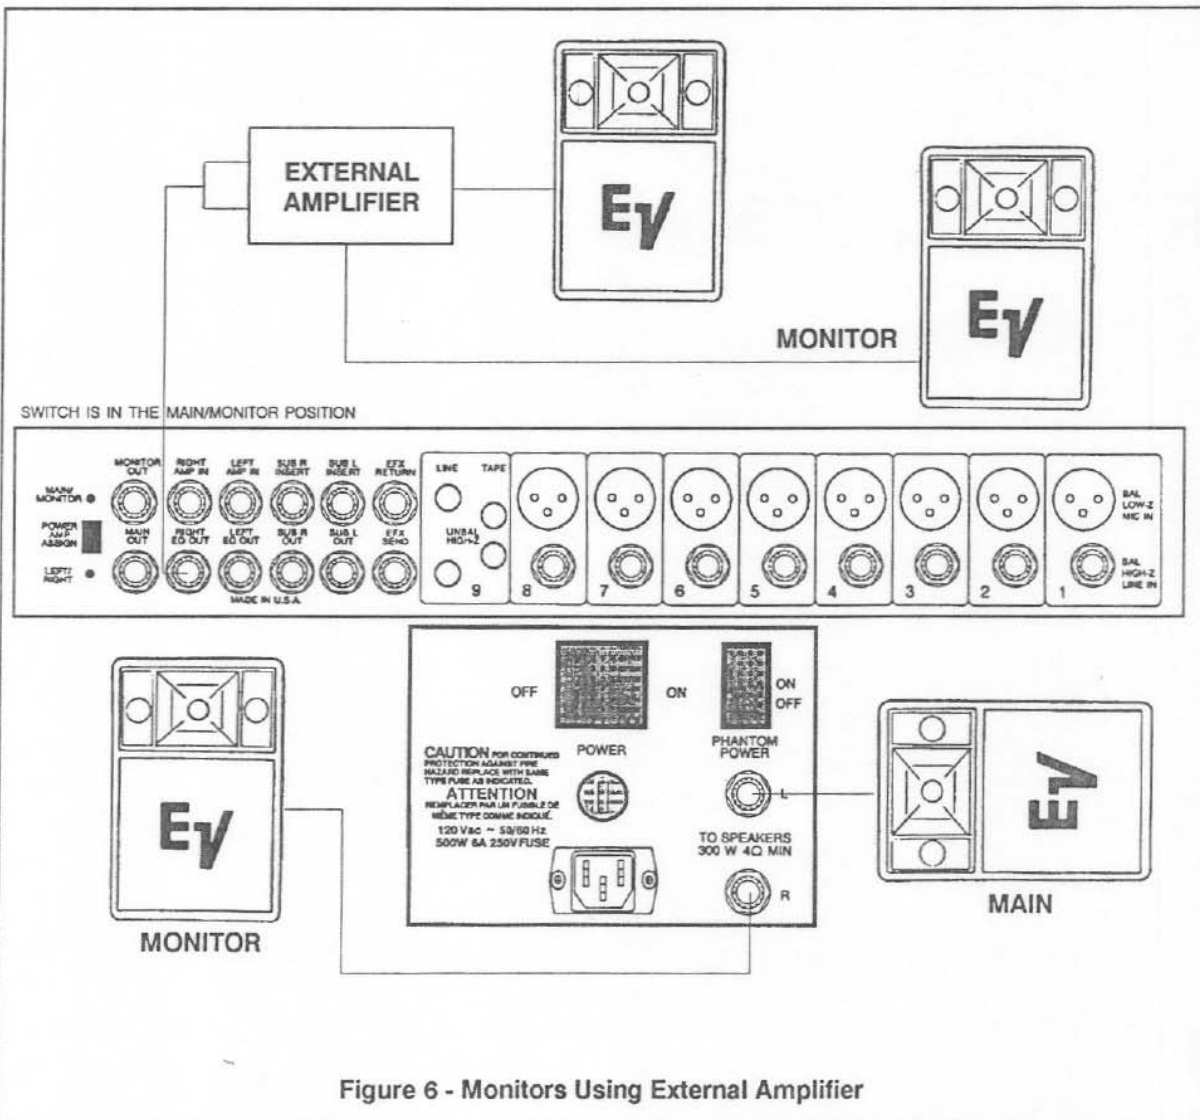

Figure 6 - Monitors Using External Amplifier
Figures 6 and 7 illustrate the various ways that the equalizer outputs may be used.
1. Driving an external monitor amplifier (Main/Monitor mode). See Figure 6.
### MONITORS (See Figure 6)